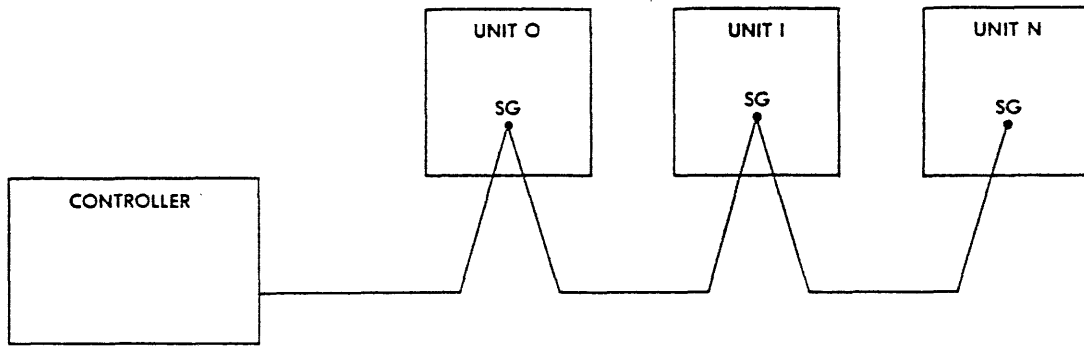

Figure 7-6. SI 9798 Auxiliary Ground Cable
3. **Daisy-chain Grounding Cable** An auxiliary grounding cable must be daisy-chained from the SG terminal on one drive to the SG terminal on the next drive and from the SG terminal of the last drive in the chain to the controller (see Figure 7-6).